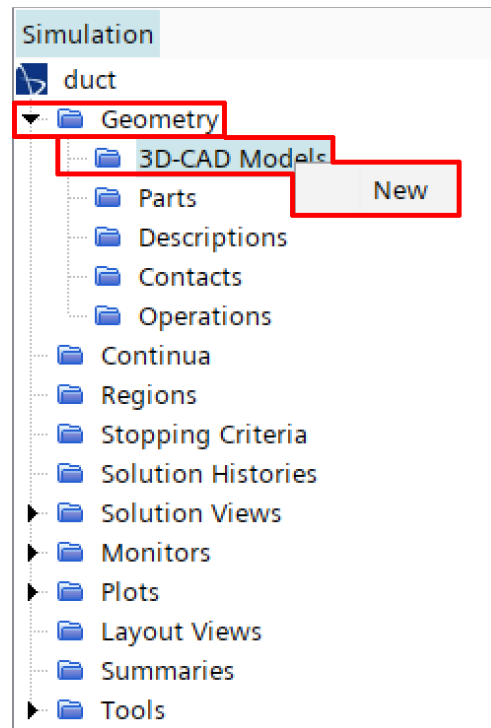

Figure 3: Opening the STAR-CCM+ 3D-CAD Modeler.
1. In the *Explorer Pane*, expand the **Geometry** node. Right click on **3D-CAD Models** and click **New**, as shown in Figure 3. The *STAR-CCM+ 3D-CAD Modeler* will open in the *Graphics Window*.